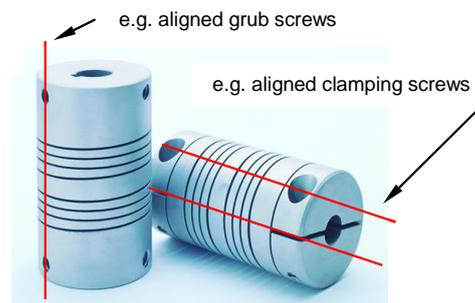

Fig. 8.2: Position of the grub screw /
Torsional stress can be recognised by the angular position of the corresponding end machining. The respective position should be in the same alignment for both ends before and after assembly (see Fig. 8.2). If one side of the coupling is freely movable during assembly (no torque), the correct position is set by itself.
- The grub screws/clamping screws should have the same alignment (see Fig. 8.2).